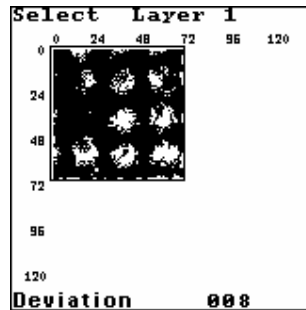

Fig. 42
7. In order to obtain the flaw image of the current layout, change the threshold signal value by pressing the DOWN (UP) key. The current value of the threshold is displayed in the line **Deviation** at the bottom of the screen (Fig. 42).